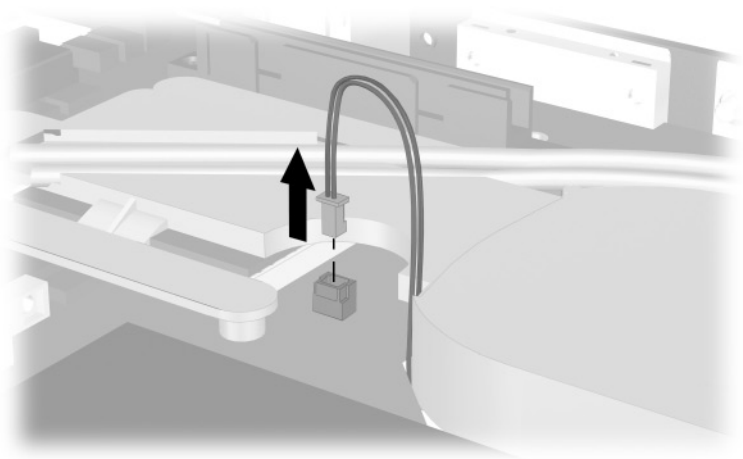

Figure 5-33. Disconnecting the Fan Cable
3. Disconnect the fan cable from the system board (Figure 5-33).